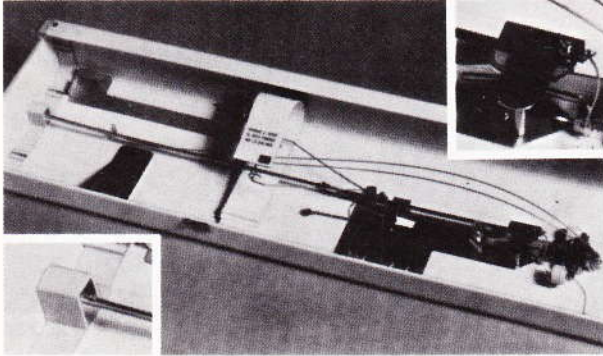

Fig. 237
- Take out the tension assembly. Fold the body and triangle along the rod. Take the tension springs back and place them through the triangle. Pack the tension assembly in the lid (fig. 237). Close the clips.
- Slide the card support under the rod of the tension assembly (fig. 237).